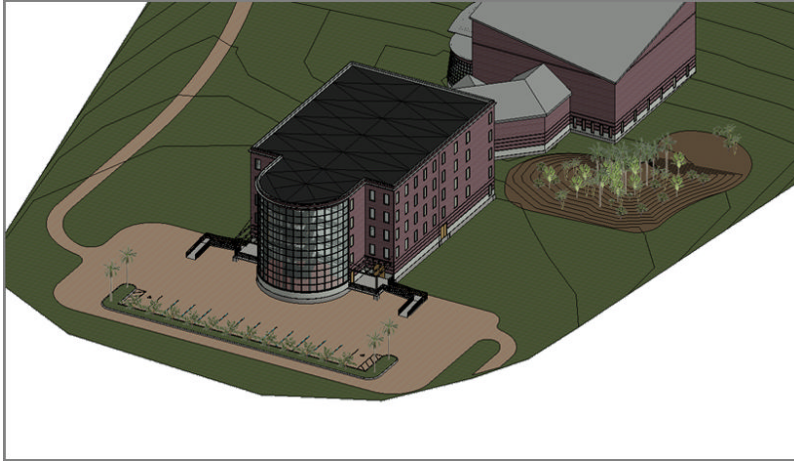

FIGURE 18.16: Adding the plantings
6. Go to a 3D view and check it out, as shown in Figure 18.16.